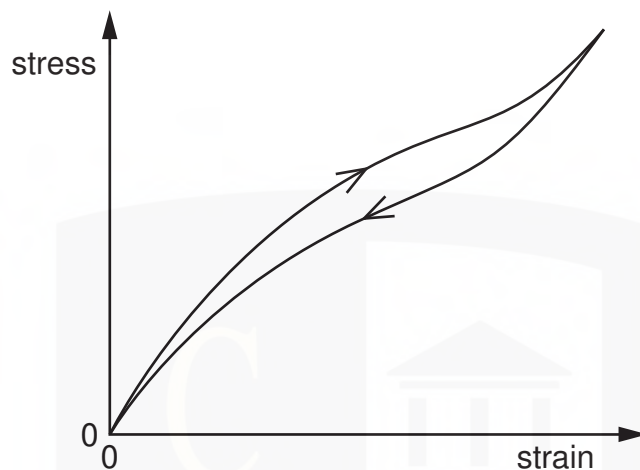

Fig. 5.2
- (b) The walls of the tyres on a car are made of a rubber compound. The variation with stress of the strain of a specimen of this rubber compound is shown in Fig. 5.2.
Use Fig. 5.2 to explain why the walls of the tyres become warm.